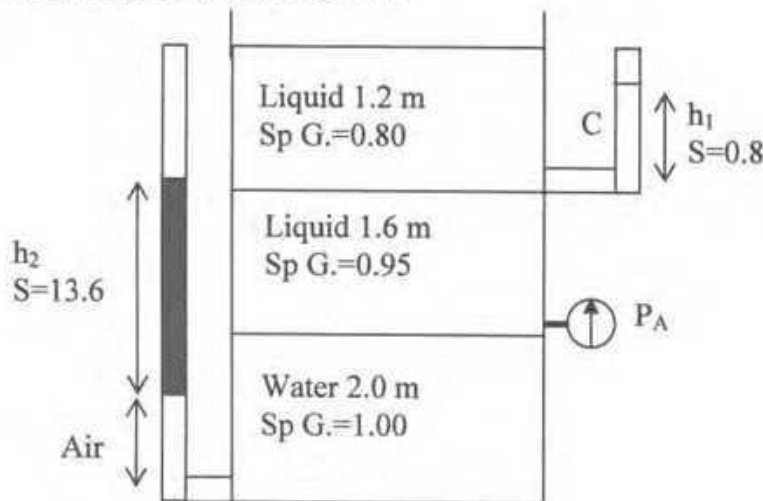

Figure 3
- e. Calculate  $h_1$ ,  $P_A$  and  $h_2$  from Figure 3.